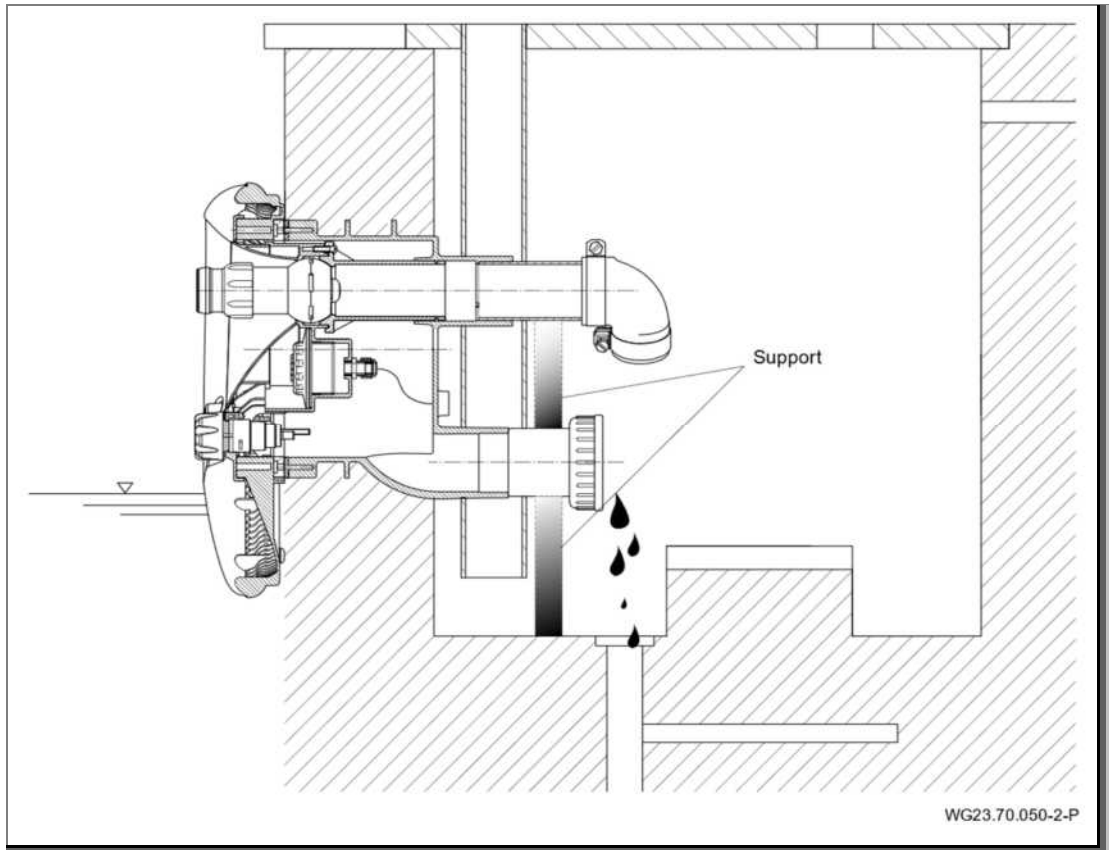

Fig. 26
3. Support the suction and pressure lines to relieve them. See "Fig. 26" on page 43.